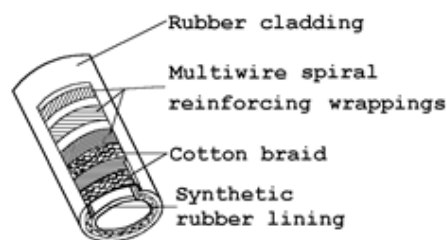

FIG 5.
- Spiral wire for higher pressures. (Fig 5)